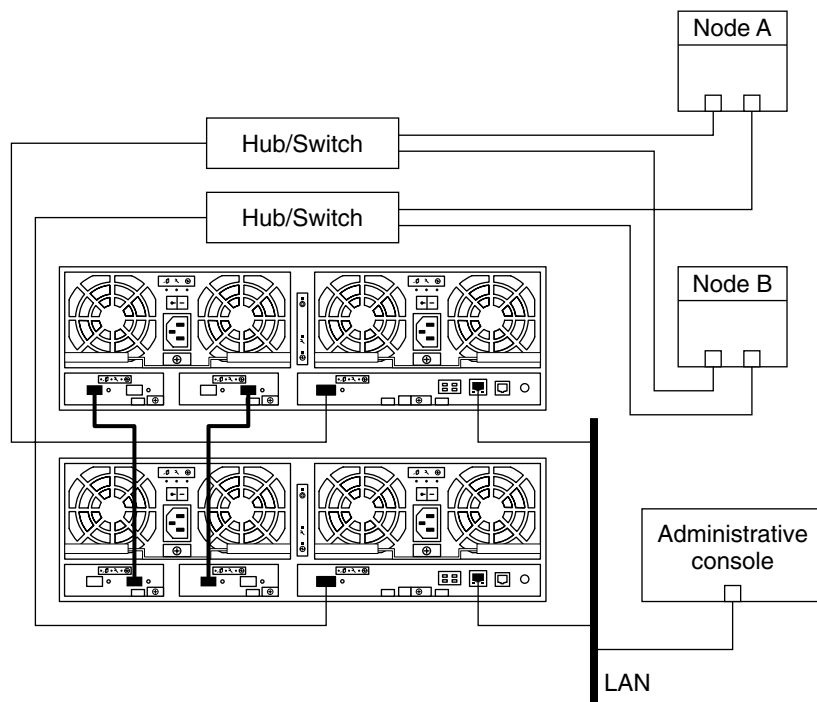

FIGURE 1-2 Installing a Partner-Group Configuration
- If yes, install the media interface adapters (MIAs) in the Sun StorEdge T3 arrays that you are installing, as shown in Figure 1-2.
4. If necessary, install GBICs or SFPs in the FC switches, as shown in Figure 1-2.
6. Cable the storage arrays, as shown in Figure 1-2.
The master controller unit is the storage array that has the interconnect cables attached to the second port of each interconnect card, when viewed from the rear of the storage arrays. For example, Figure 1-2 shows the master controller unit of the partner group as the lower storage array. In this diagram, the interconnect cables are connected to the second port of each interconnect card on the master controller unit.